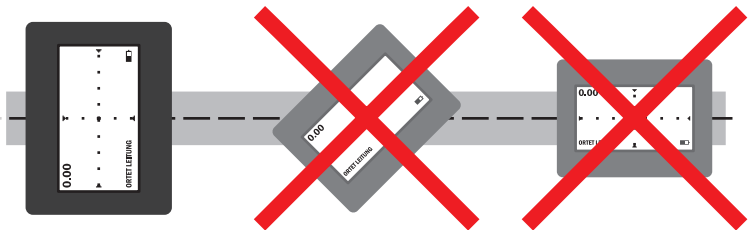

Fig. 38: **LINE (Peak +)** locating mode - receiver aligned correctly above the pipeline (left)
5. The receiver must be correctly aligned to determine the depth (fig. 38). Rotate the receiver so that the display is at a right angle to the line. Check the alignment even if you are not instructed to **ALIGN** in the instruction field.